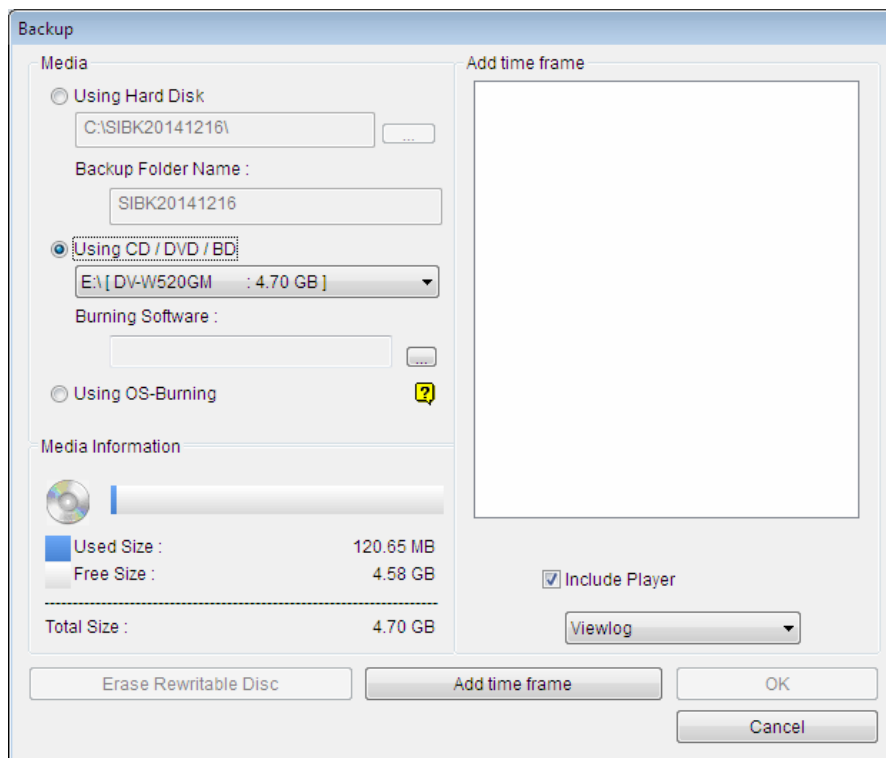

Figure 5-3
4. Click **OK**. The Backup dialog box (Figure 5-3) appears.
OK on the Backup dialog box (Figure 5-3), the system will ask you to paste the backup files to the CDR-Writer program, and call up the assigned burning software for you to paste and backup files.